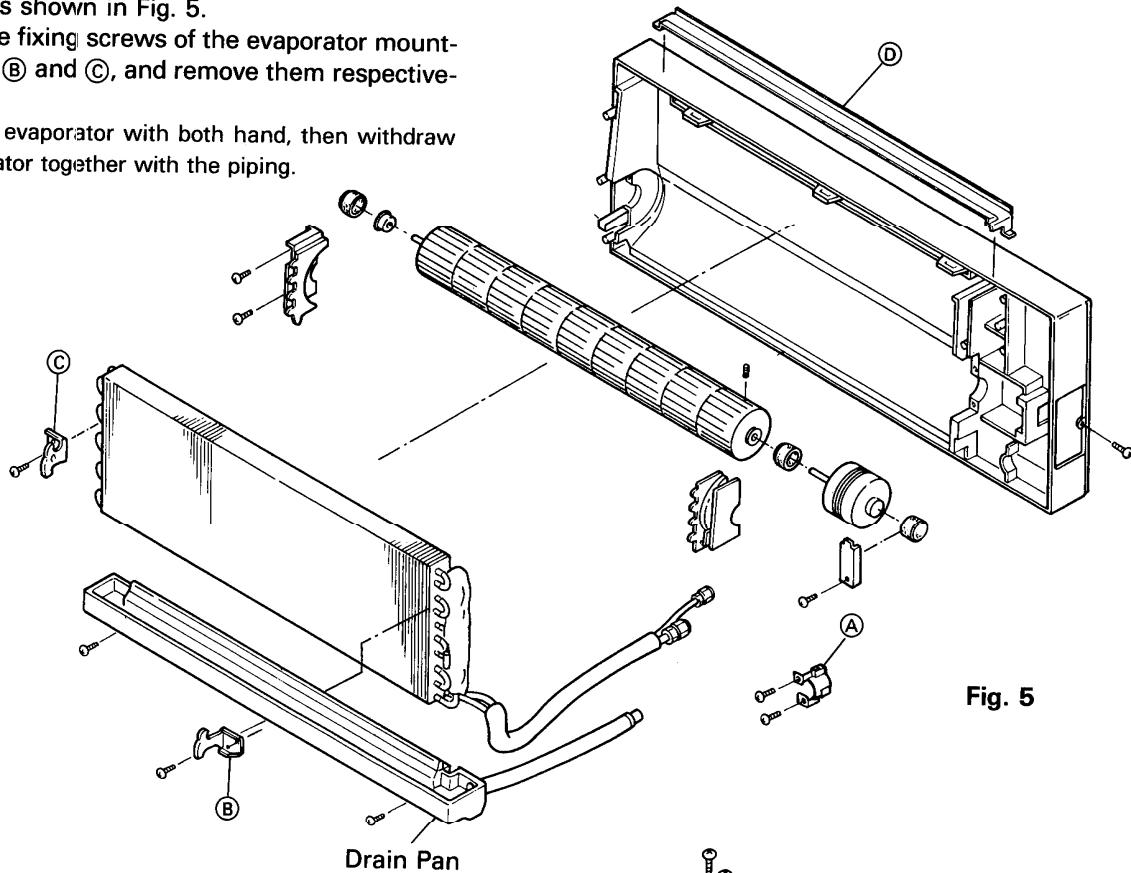

Fig. 5
- 3) The drain pan can be pulled out after removing the screws shown in Fig. 5.